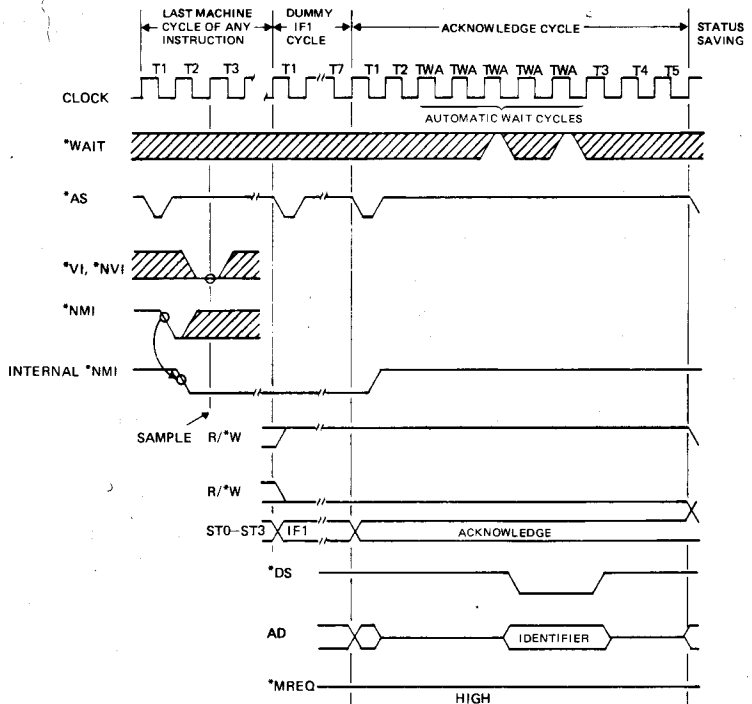

Fig. 2-16 Interrupt and Trap Request/Acknowledge Timing
**Interrupt and Segment Trap Request/Acknowledge** - Figure 2-16 shows the interrupt and segment trap request/acknowledge timing for the Z8001.